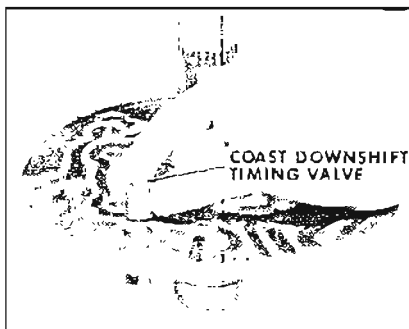

Figure 5-191
9. Remove coast downshift timing valve from the pump cover and inspect for damage. Carefully check to be sure the spring returns the ball to its seat. See Figure 5-191.